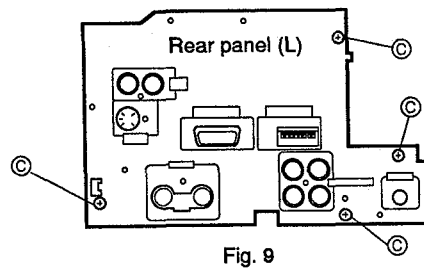

Fig. 9
- ① Remove the four screws (C) fastening the Rear panel (L). (Fig. 9)